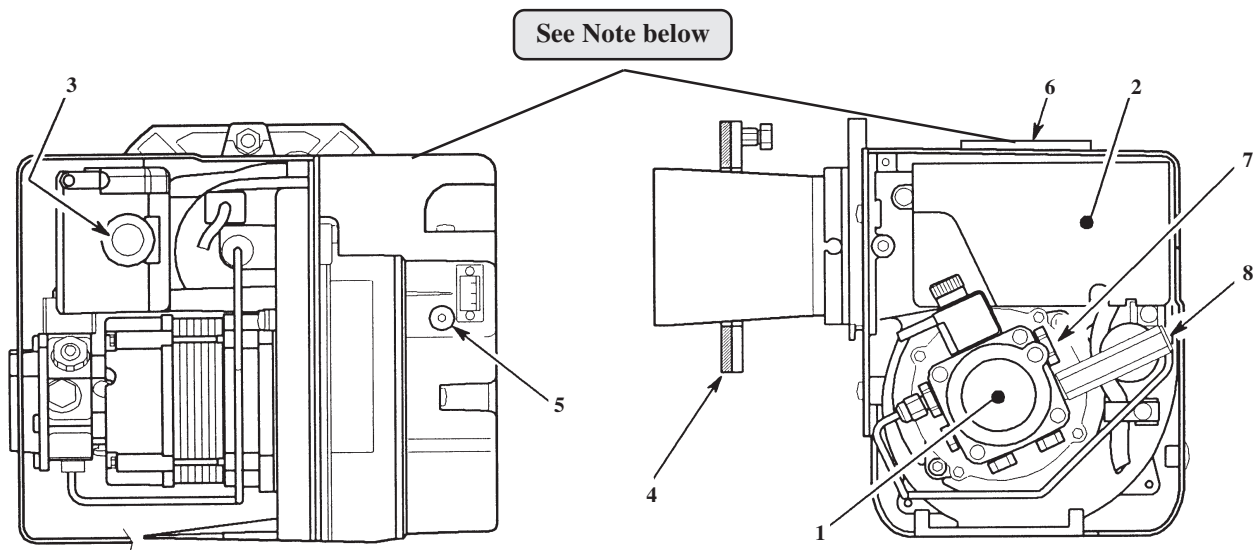

Fig. 21 - RDB burner components
- 4 Connect a combined vent manifold and pressure gauge to the pressure gauge connection port on the oil pump. See Fig. 21. Open the vent screw on your vent manifold to vent the supply while the pump is running.
- 7 With the burner alight, check the fuel pressure. Refer to the Technical Information, Section 3.3. Adjust the pressure if necessary - see Fig. 21.
Use the hexagonal key supplied to adjust the burner air damper (see Fig. 21) as required. Turning the screw anti-clockwise closes the damper and increases CO₂ level, turning the screw clockwise opens the damper and reduces CO₂ level. Re-check the smoke number if the damper has been moved. Under no circumstances must the smoke number be above 1.